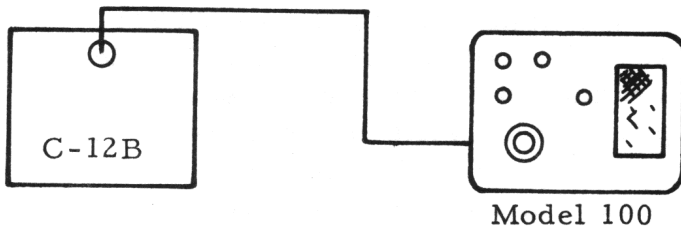

FIG. 1
- (4) Set the Receive Selector to Tune
- (5) Apply a channel 9 signal from the C-12B to the Executive model 100A. Set the C-12B LEVEL control full clockwise. (figure 1)
- (6) Slowly tune the receiver thru channel 9 and note the VTVM reading. Off channel the VTVM will read between .5 and 1.0-dc. As you reach the channel the reading will increase (depending upon the amount of signal being applied) to 1.5 volts-dc or more. If the reading goes higher than 2.5 reduce the C-12B signal.